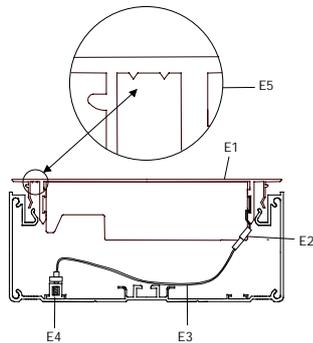

Figure 5: Inserting the modules
- All covers and modules have to be mounted with the attachment mark from the left side (see figure 5).
Mounting the modules (figure 5)